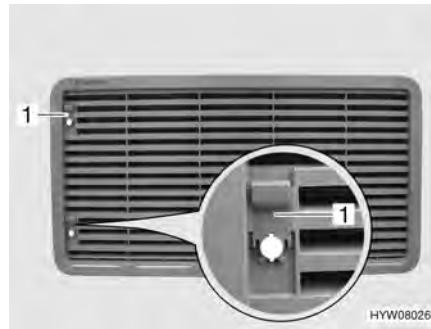

Fig. 140 Refrigerator ventilation grill (with sliding trap)
- Push sliding trap (Fig. 140,1) upward.